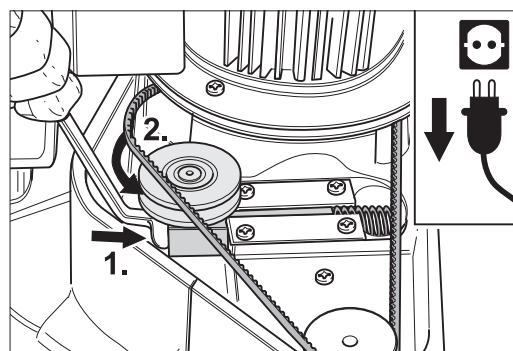

Fig. 50 Insert the closed mouth wrench below the clamping roll, move the belt tensioner and insert the V-belt into the pulleys.
- 4 Use the closed mouth wrench to push the tensioner back against the spring and place the V-belt into the pulleys of the ventilator and tensioner. When the V-belt has been inserted you can release the tensioner into its regular position (Fig. 50).